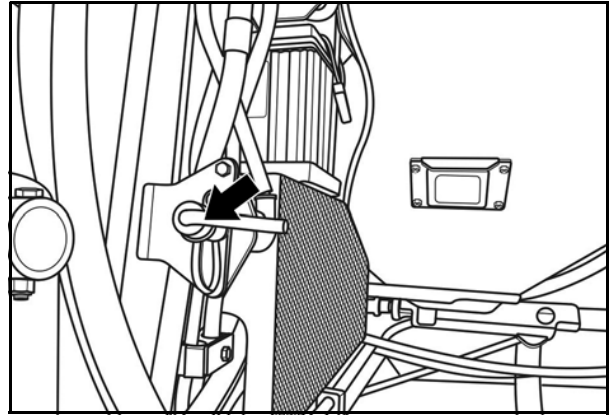

FIG. 77
1. Turn off the main switch (arrow), turning the lever counterclockwise (Fig. 77)